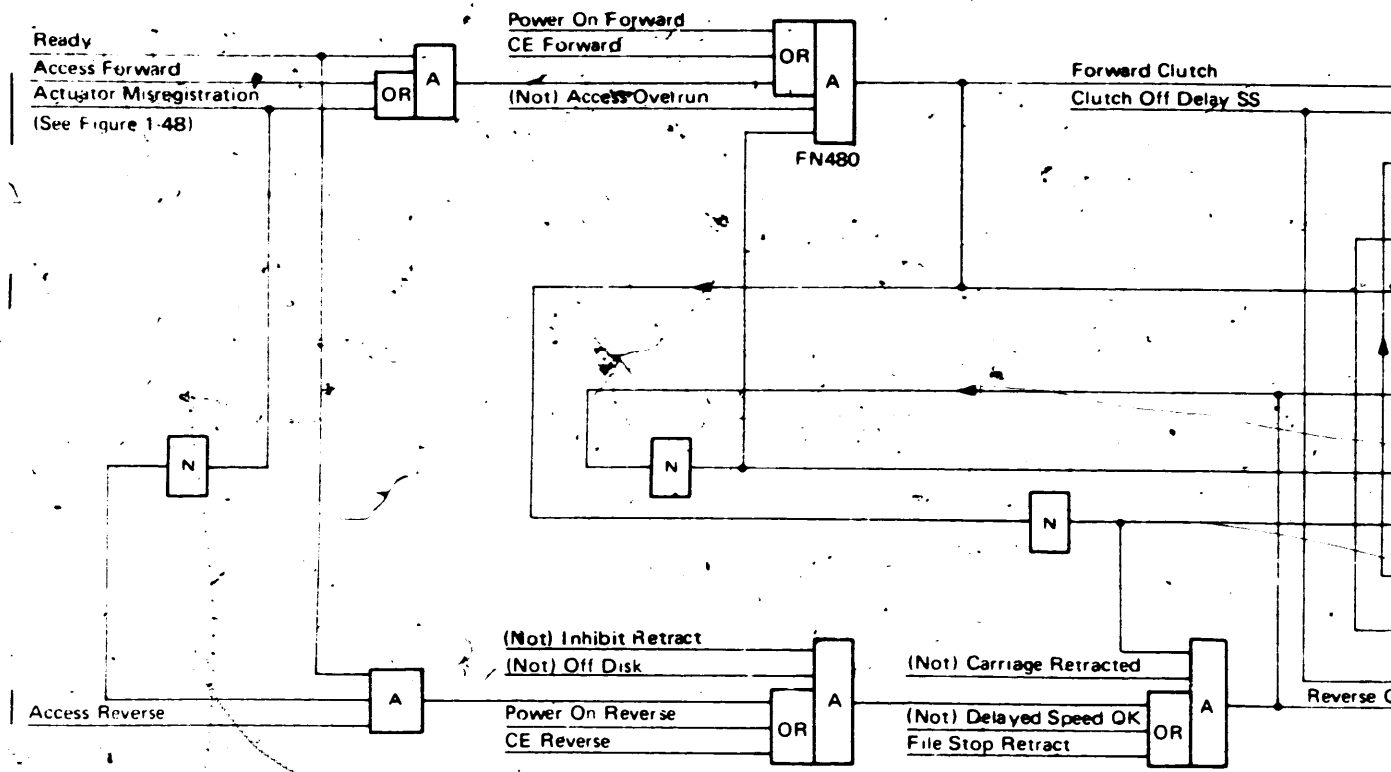
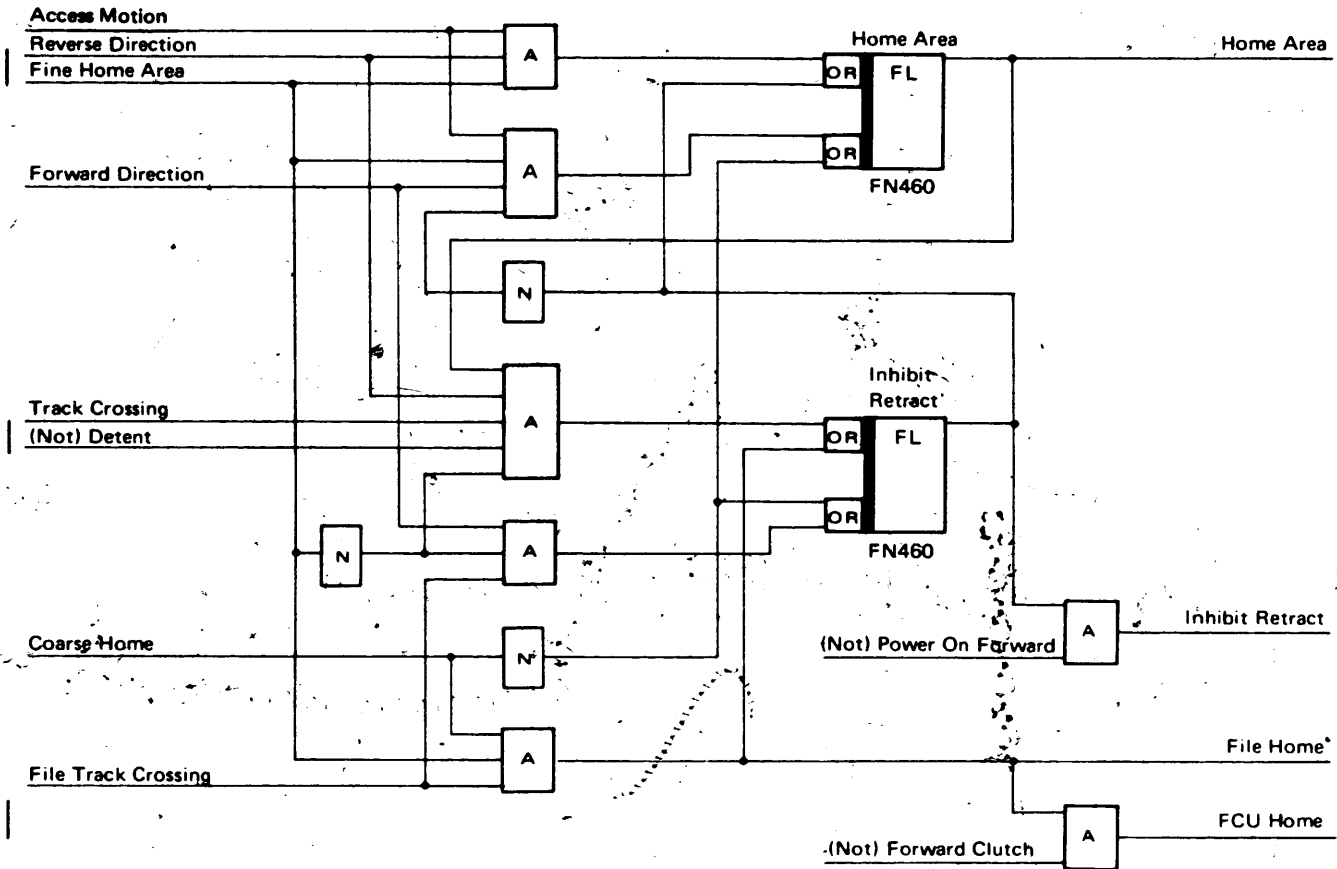

Figure 1-44. Clutch and Detent Signals [07505A]
Figure 1-47. Home Detection Logic [07508A]
- Derivation of clutch and control signals is shown in Figures 1-44 and 1-45. Fr. D17
From Tracks 002 to 202: When 'access reverse' is activated, the carriage retracts towards track 000. At approximately track 001½, the fine home area warning pulse occurs, setting the 'home area' latch (Figure 1-47). Fr. E02 With the 'home area' latch set, the 'inhibit retract' latch is set by the track crossing pulse at the next track crossing point (track 001). With 'inhibit retract' activated, 'ground reverse clutch' is dropped, and 'detent' activated (see Figure 1-44). Fr. D17 ('Detent' must be activated one track before track 000.) The carriage stops with the heads at track 000 and 'access reverse' is dropped.
When the forward/reverse switch is set to FORWARD, a singleshot fires, setting the 'CE forward' latch. 'CE forward' is activated, bringing up 'ground forward clutch', and dropping 'detent' (see Figure 1-44). Fr. D17 The carriage now moves forwards and as it moves off-track the clutch off delay SS fires to reset the 'CE forward' latch; 'CE forward' is dropped, and 'detent' activated. The detent mechanism engages to stop the carriage after one track.
- See Figure 1-47 Fr. E02 for home detection logic.